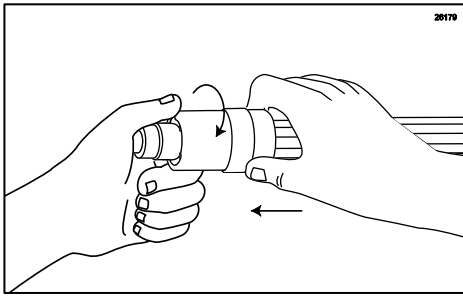

Figure 76
29. Push the Coupler Nut into the Coupler Body and rotate the Coupler Body until motion stops to secure. (See Figure 76.)